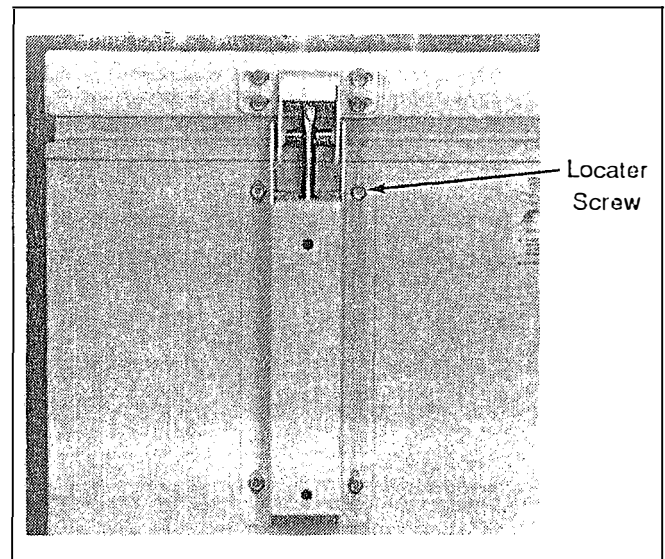

Figure A7 - Lid Removal
4. Replace lid in reverse order, installing the upper right locator screw first. See Figure A7.